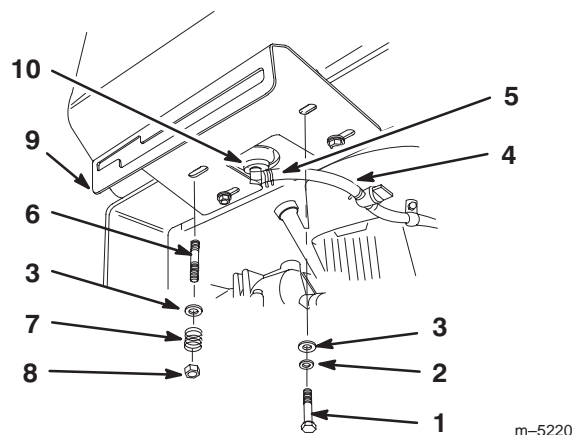

Figure 3
6. Secure the right side control panel and fuel tank to the rear frame (Fig. 3) with 2 bolts (5/16 x 7/8 in. (22mm)), lock washers (5/16 in.) and washers (5/16 in.) (Fig. 3).
7. Secure the left side control panel and fuel tank to the rear frame (Fig. 3) with 2 studs, washers (5/16 in.), springs and locknuts (5/16 in.) (Fig. 3).
8. Slide the hose clamp onto the fuel line (Fig. 3).
9. Push the fuel line onto the fuel tank connection and secure it with a hose clamp (Fig. 3).